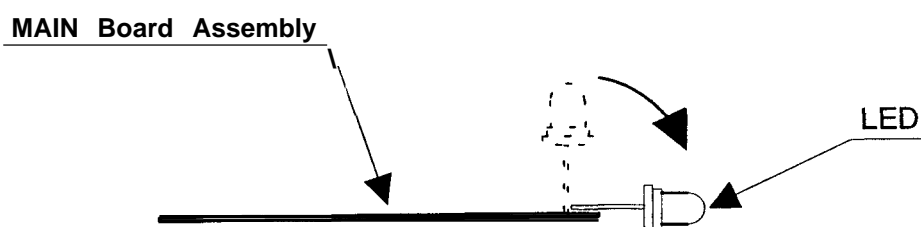

Figure 3-7. Bending the LED Lead Wires
- When replacing the MAIN board assembly, bend the LED lead wires parallel to the MAIN board assembly (see Figure 3-7).